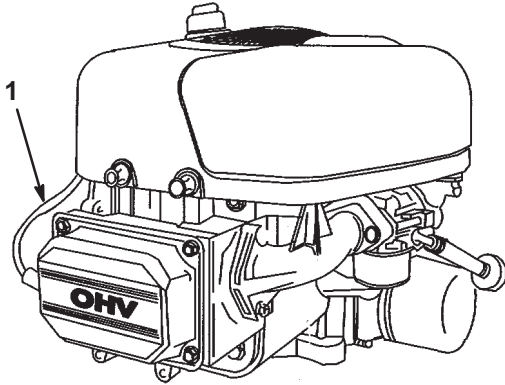

Figure 25
- Disconnect the wire from the spark plug (Fig. 25).
- Connect the wire to the spark plug (Fig. 25).